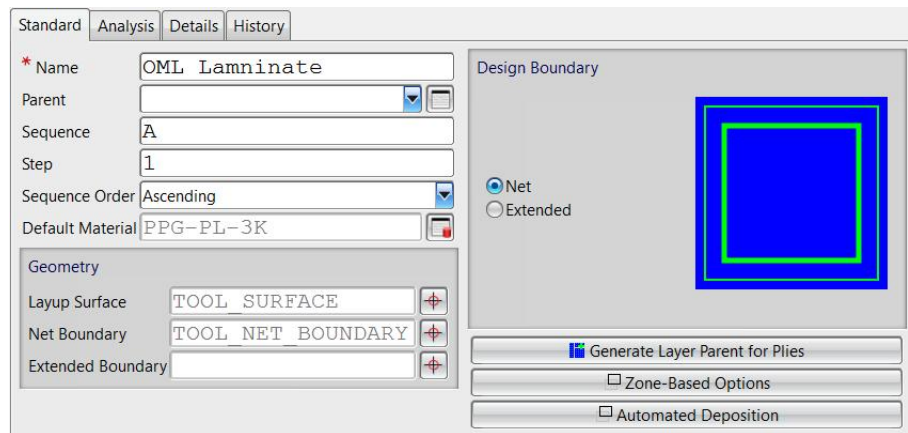

Figure 7–52
2. The laminate form is shown in Figure 7–52.